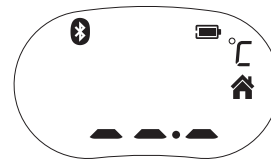

Figure 4
3. Press the *Test Button* to turn on the thermometer, press and hold *Setting Button* to switch to object mode. You can take the object temperature after hearing two beep sounds. (see figure 4)